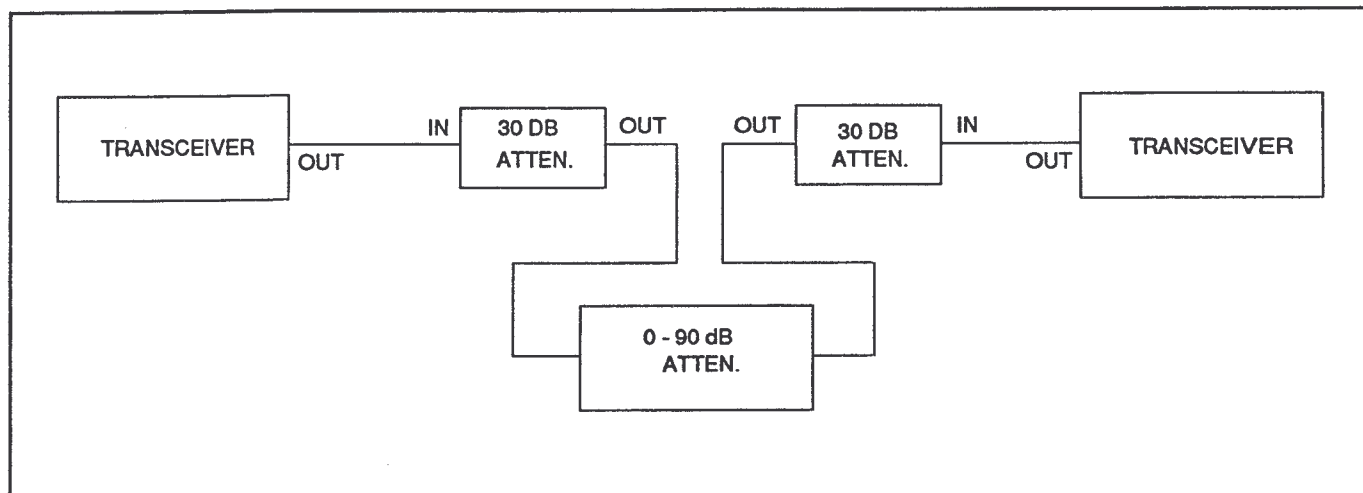

FIGURE 12.2-1.
4. Connect both transceivers as illustrated in Figure 12.2-1.